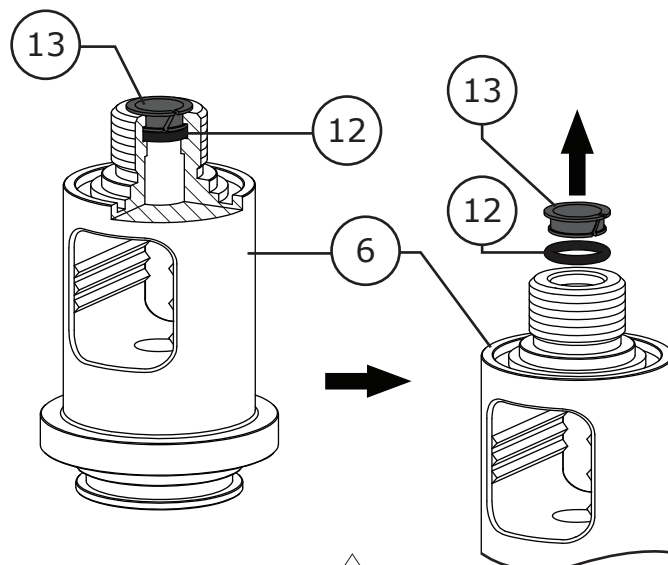

Figure 25 Bonnet Assembly Disassembly Continued
- 9** Flip the bonnet (Key 6) so that it is right side up. Remove the stem bushing (Key 13) and stem o-ring (Key 12), use a pick set if necessary. Refer to Figure 25.